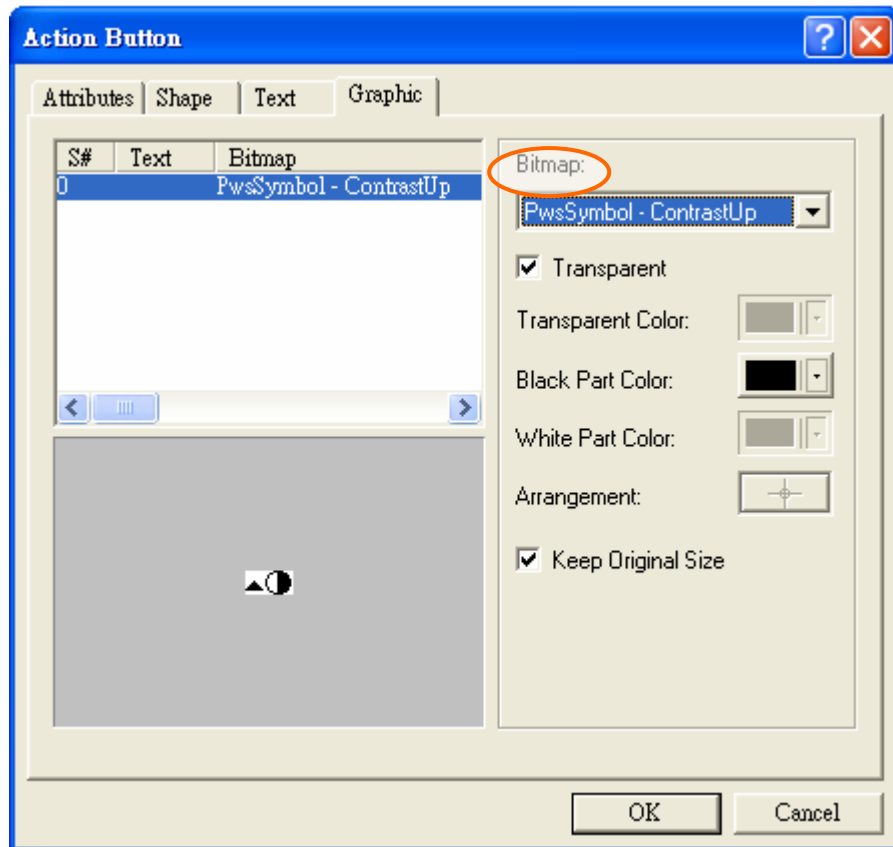

Figure 117. Select bitmap to an [Action] Button
2. The Bitmap is “PwsSymbol – ContrastUp”.See Figure 117.